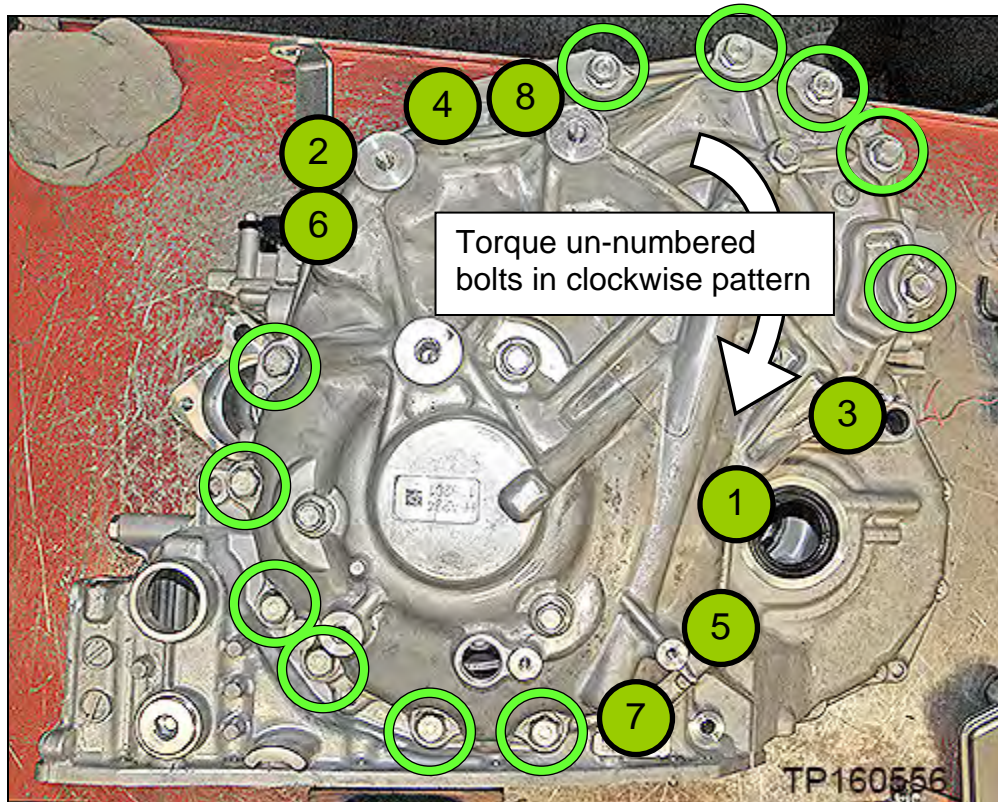

Figure 40F
32. Install the new side cover bolts for sub-assembly to the CVT case (Figure 40F).
- Torque the first eight (8) bolts marked as ● in the sequence numbered in Figure 40F below, and then torque the rest of the bolts in a clockwise manner.